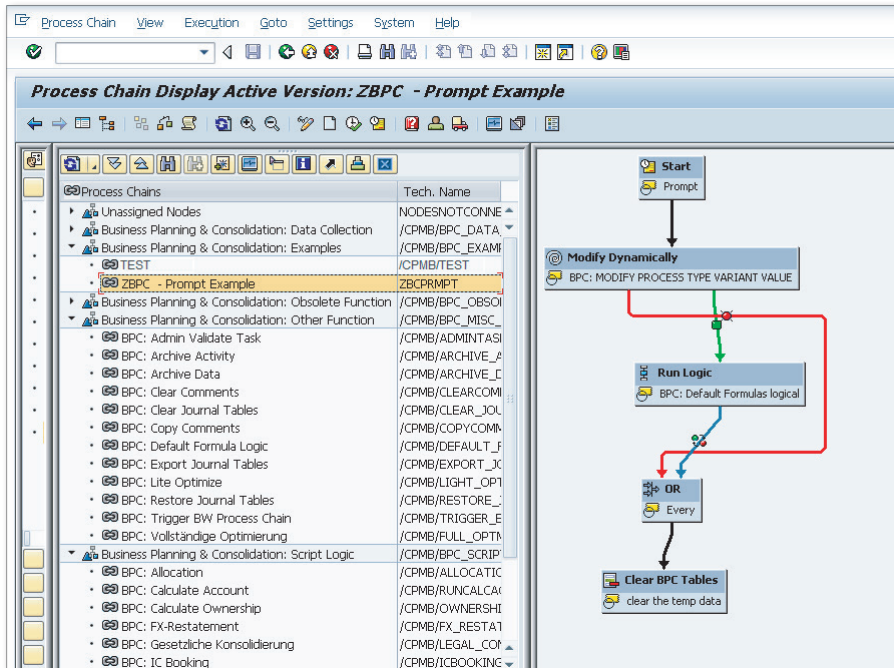

Figure 6.7 Creating Logic Script to Revalue Plan Data—Part D
- Create a new process chain using Transaction RSPC in the SAP NetWeaver BW system, as shown in Figure 6.7. In this step, we'll show you how to create a process chain for running logic script. But you do not have to create a separate process chain for running logic script; you can use process chain `/CPMB/DEFAULT_FORMULAS`, which is delivered with SAP BPC for NetWeaver. The process chain will include the START process type and the following standard process types that are specific to SAP BPC:
6. Make sure you include the process types in the same order as shown in Figure 6.7. Every process type will be associated with a variant, and the variant for the START process type has to be unique for every process chain in the system. Create a new process variant for the START type.